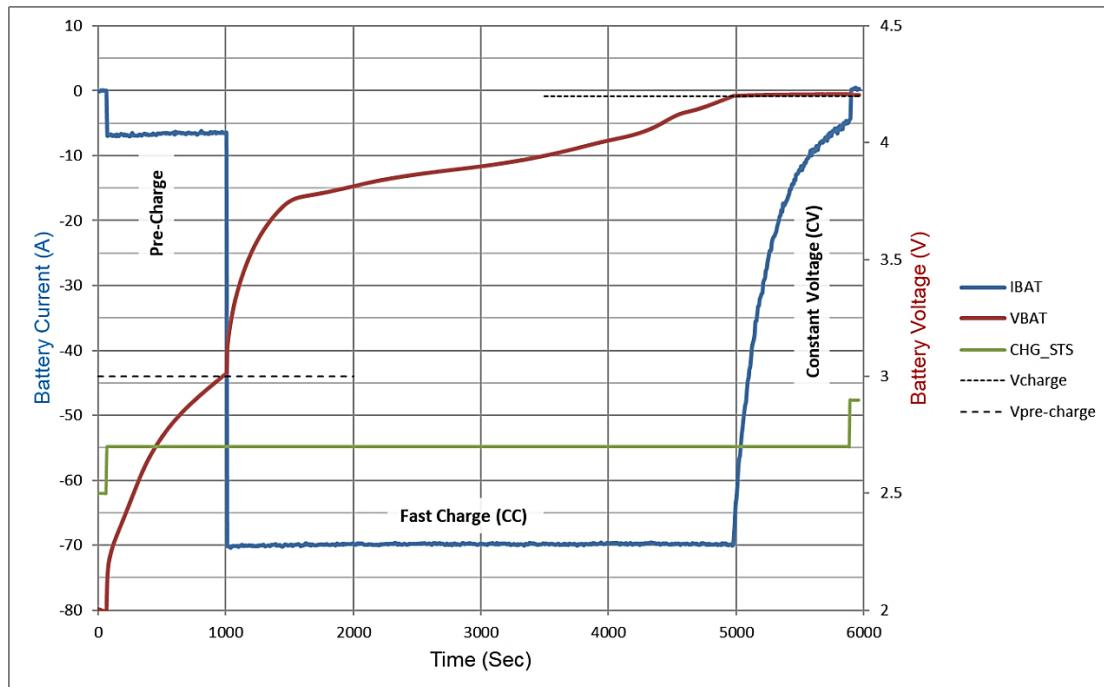

Figure 31: Example 70 mAh Charge Cycle
Charging current operates in three regions based on battery voltage: pre-charge, fast charge (CC), and constant voltage (CV). These regions are shown in the typical charging example of Figure 31. The charge status (CHG_STS) is also shown transitioning from the ‘charge ready’ to ‘charge in-progress’ to ‘charge done’ states.